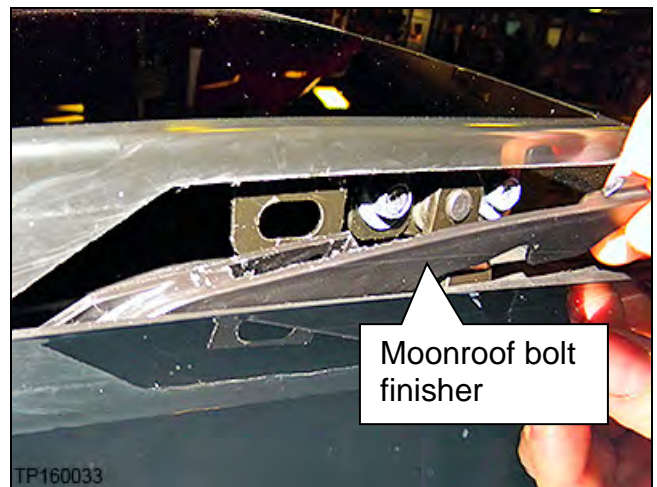

Figure 56
- g. Push the Moonroof bolt finisher down and remove from the vehicle (Figure 56).